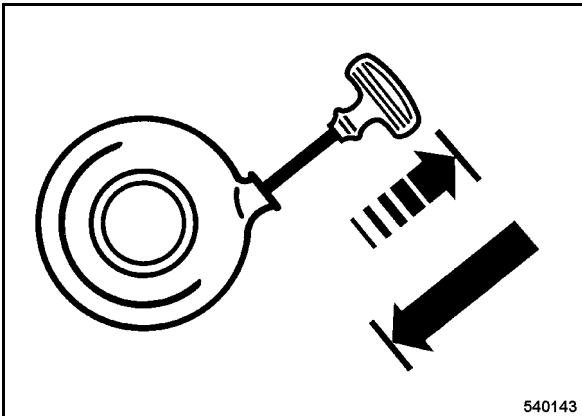

Fig. 13
- Pull the rope by the starter handle (Fig. 13) until resistance can be felt.